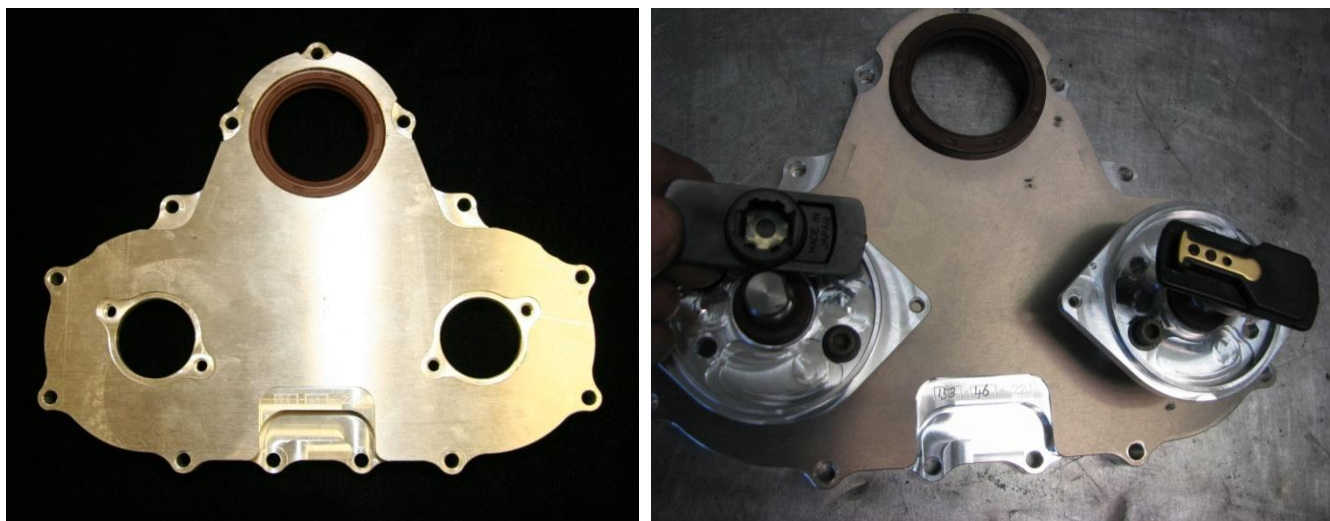

Figure 147 – Installation of Seals & Assembly
- Fresh seals must be fitted to the case and to the distributor mounts as shown in Figure 147. Note that later engines use a larger crankshaft timing gear and a thinner oil seal to suit. Oil seal size must be matched to fit the gear used.